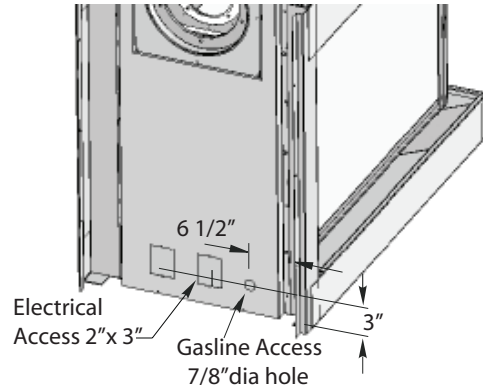

Figure 21. Gas line access.
- See **Figure 21** for location of gas line access.
When covering the upper metal portion of the fireplace, (as shown, Fig.21) with a non-combustible material, Please Note: The decorative facing materials may be subject to temperatures in excess of 250° F. This should be considered when selecting facing materials.